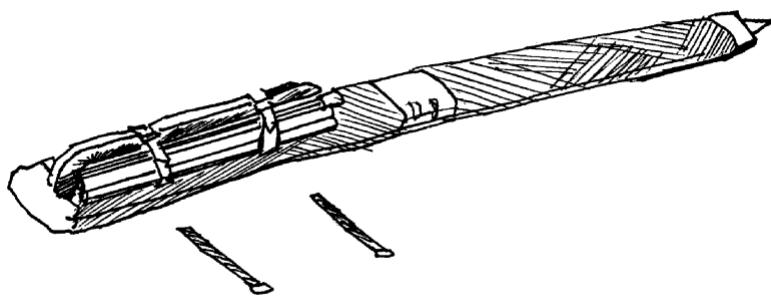

Fig. 49
- 4.3.21. Put two tighten tapes on the bag with the sail, then put two tapes around all tubes, battens, kingpost and speedbar trying to decrease the dimensions of the package. Control that details of the frame do not make local damages of the sail. Use additional washers if necessary. Tighten the package with the tapes (Fig. 49).